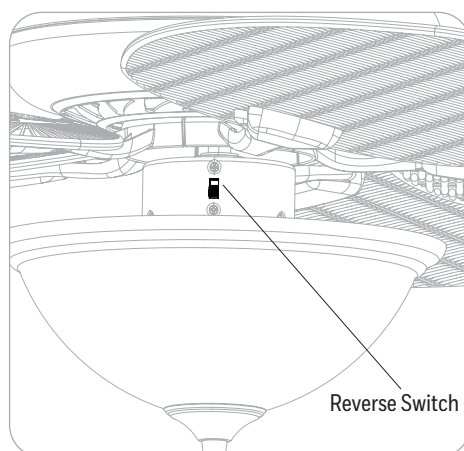

Figure 6.2
2. Use the reverse switch located on the switch housing to optimize your fan for seasonal performance. **In warmer weather**, push the reverse switch down which results in downward airflow creating a wind chill effect. **In cooler weather**, push the reverse switch up which results in upward airflow that will help move hot air of the ceiling (Figure 6.2). **Important:** Wait for the fan to stop before moving the reverse switch. The reverse switch must be set either completely up or down in order for the fan to function correctly. If the reverse switch is set in the middle position, the fan will not operate.